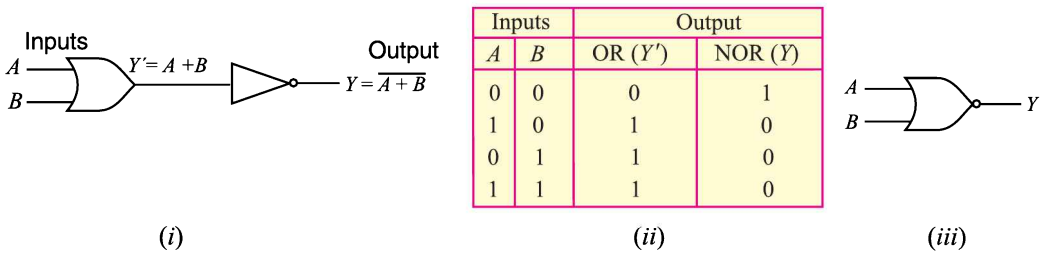

Fig. 26.12
(ii) **NOR gate.** It is a combination of OR gate and NOT gate. In other words, output of OR gate is connected to the input of a NOT gate as shown in Fig. 26.12 (i). Note that output of OR gate is inverted to form NOR gate. This is illustrated in the truth table for NOR gate. It is clear that truth table for NOR gate is developed by *inverting the outputs* of the OR gate.
This Boolean expression can be read as $Y = \text{not } A \text{ or } B$. To perform the Boolean algebra operation, first the inputs must be ORed and then the inversion is performed. *Note that output from a NOR gate is high (1) only when all the inputs are low (0). If any of the inputs is high (1), the output is low (0).* Fig. 26.12 (iii) shows the logic symbol for a NOR gate. The bubble (small circle) at the Y output indicates inversion.